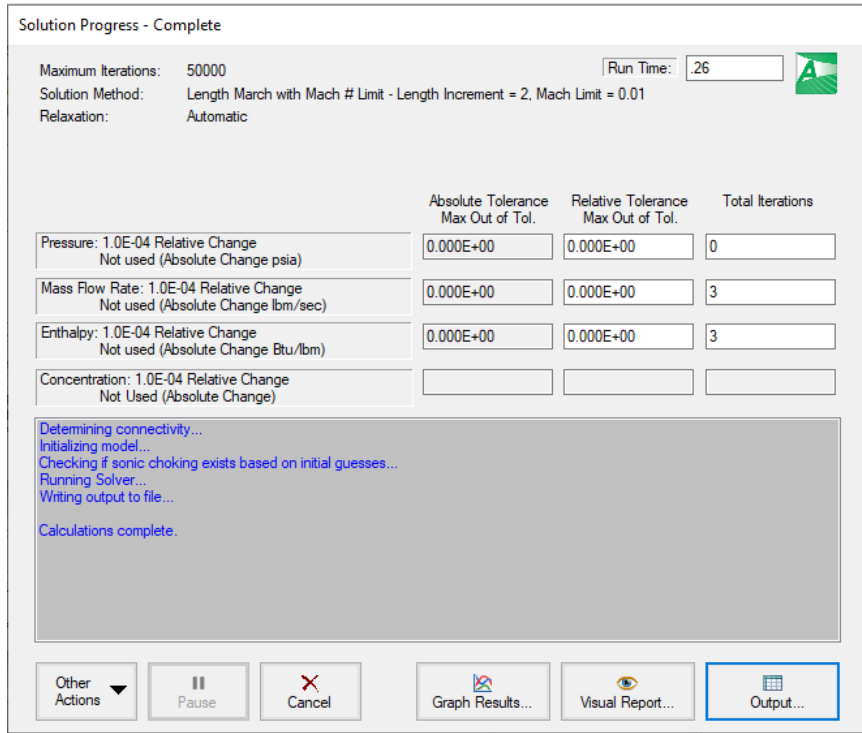
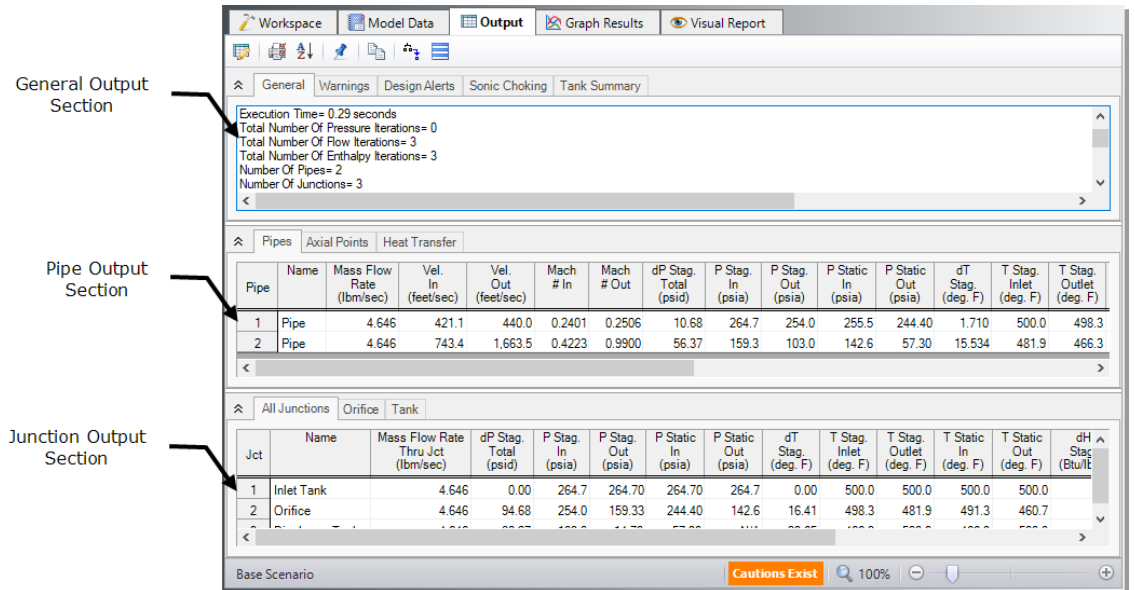

Figure 2.14 The Solution Progress window displays the convergence progress
Figure 2.15 The Output window displays output in text form
- **Choose “Run Model”** from the Run Model icon on the Main Toolbar or the Analysis menu. During execution, the Solution Progress window displays (see Figure 2.14). You can use this window to pause or cancel the Solver's activity. When the solution is complete, click the Output button and the text-based Output window will appear (see Figure 2.15). The information in the Output window can be reviewed visually, saved to file, exported to a spreadsheet-ready format, copied to the clipboard, printed to an Adobe PDF file, and printed out on the printer.
The Output window (Figure 2.15) is similar in structure to the Model Data window. Three areas are shown, and you can expand or collapse each area by dragging the boundary between the areas up or down, or by clicking the arrow beside the area label. The items displayed in the tables are those items you choose in the Output Control window.